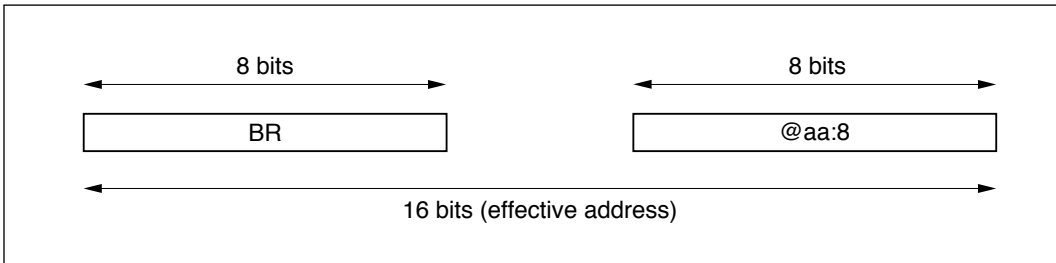

Figure 3-8 Short Absolute Addressing Mode and Base Register
The eight-bit base register (BR) stores the base address used in short absolute addressing mode (representing the upper eight bits of an address in page 0). Figure 3-8 illustrates the base register and short absolute addressing mode. In this addressing mode a 16-bit effective address is generated by using the BR contents as the upper eight bits and an address given in the instruction code as the lower eight bits. The short absolute addressing mode always addresses page 0.